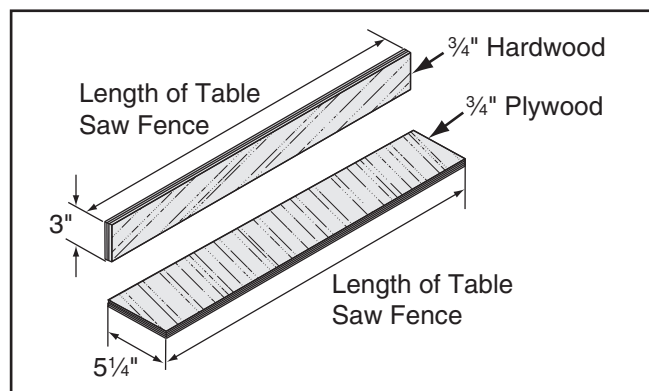

Figure 98. Auxiliary fence dimensions.
1. Cut a piece of $\frac{1}{2}$ " thick plywood $5\frac{1}{4}$ " wide and as long as your table saw fence; cut a piece of $\frac{3}{4}$ " thick hardwood 3" wide and as long as your table saw fence (see **Figure 98**).